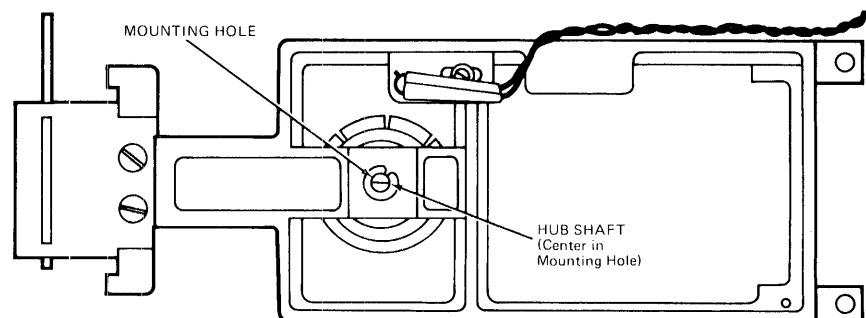

FIGURE 3. HUB FRAME ADJUSTMENT
- c. Position the hub frame until the hub shaft is centered in its mounting hole in the hub frame Reference figure 3. Now tighten the mounting screws for the hub frame pivot springs.
- d. When installing a new assembly, insure the detector mounting block is flush against the side of the hub frame. Reference figure 3.